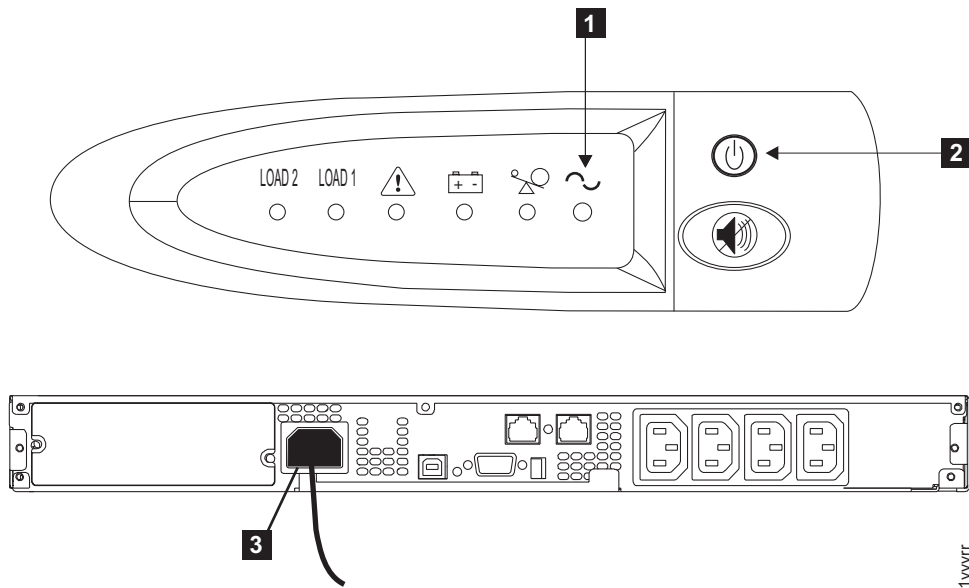

Figure 330. Front and back panels for the 2145 UPS-1U
2. Press and hold the on/off button **2** until the power light **1** is extinguished (approximately five seconds). On some versions of the 2145 UPS-1U, you need a pointed device, such as a screwdriver, to press the on/off button. The 2145 UPS-1U enters standby mode, with all indicators off. Figure 330 on page 319 illustrates the front and rear views of the 2145 UPS-1U.